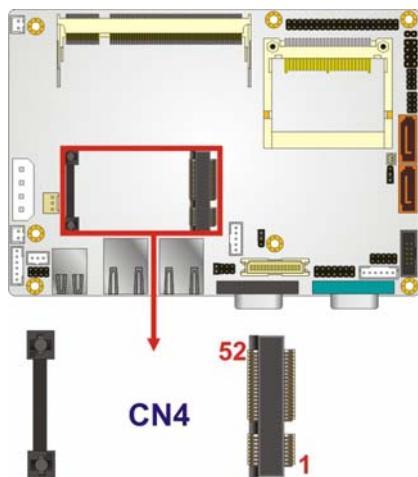

Figure 3-7: PCIe Mini Card Slot Location
- CN Location:** See Figure 3-7